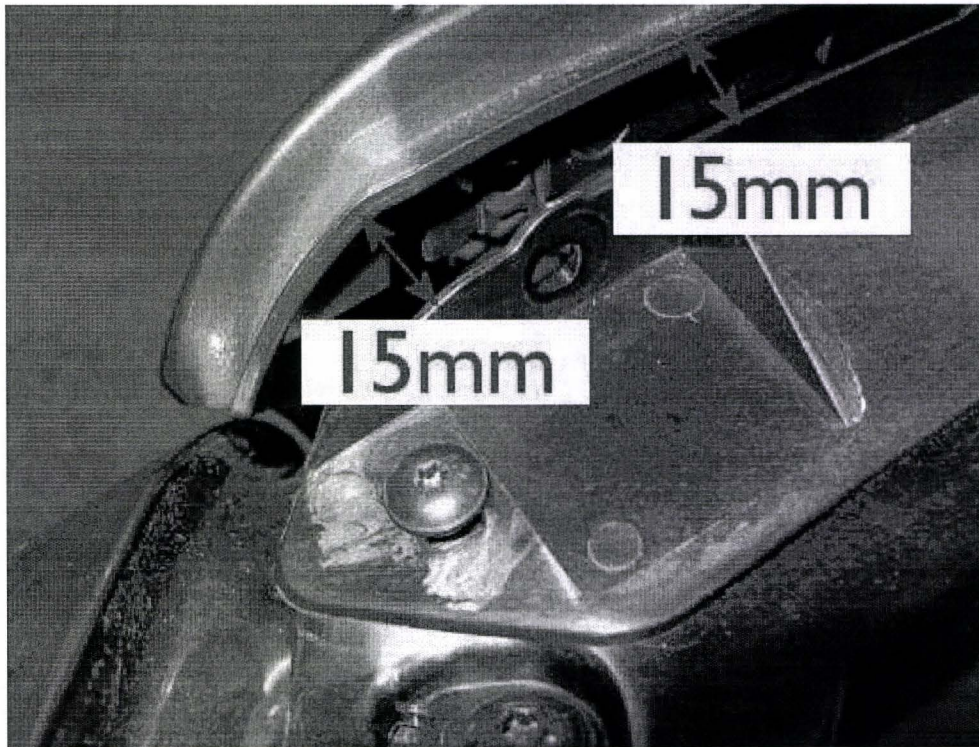

Figure 2
- Referring to Figure 2, with extreme care and ensuring that NO pressure or stress is applied to the lower fixing points of the radiator shell, gently move the top part of the shell forward away from the securing strip no more than 15mm